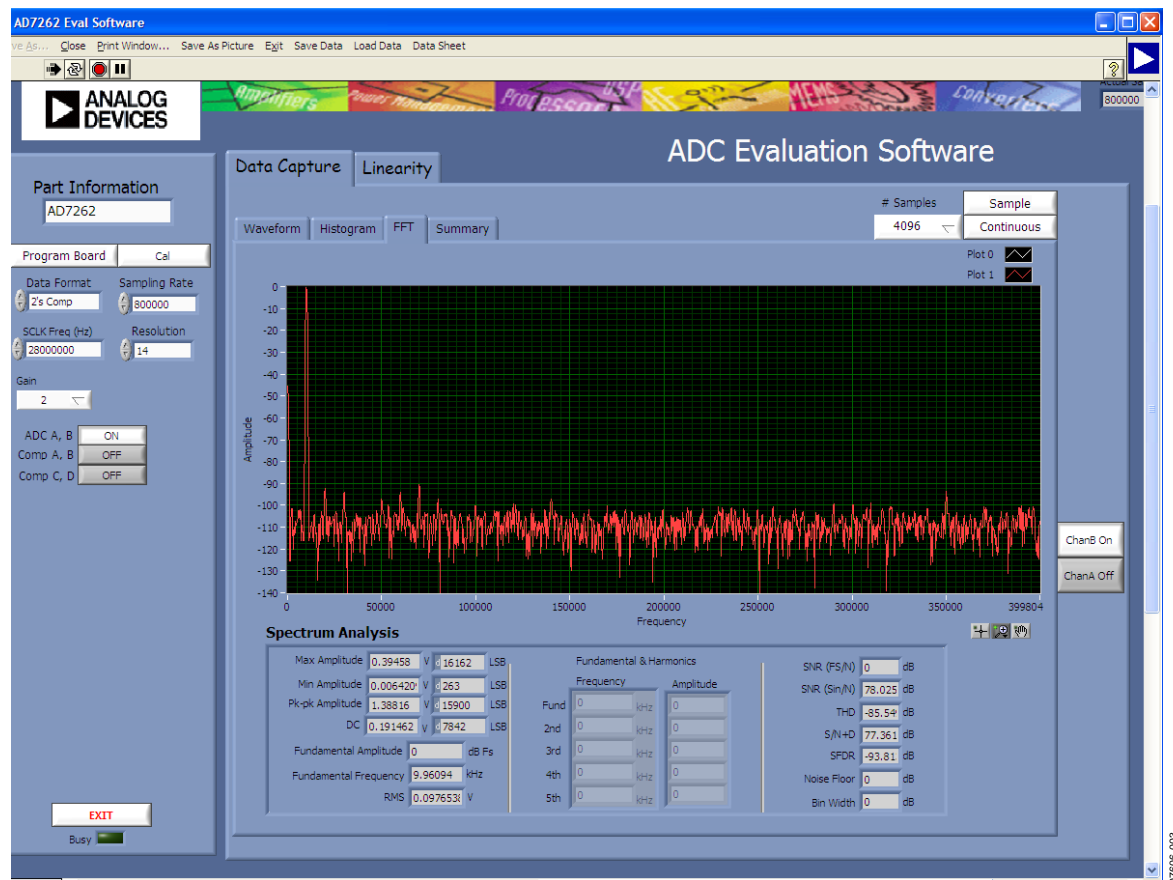

Figure 3. AD7262 Main Window
2. Click the **AD7274/AD7262** icon. Figure 3 displays the main window that is opened.
The software that controls the EVAL-CED1Z and, therefore, the AD7262/AD7264 evaluation board, has two main windows. Figure 3 shows the window that appears when the software is run. The main function of this window is to allow you to read a predetermined number of samples from the evaluation board and display them in both the time and frequency domain. The top portion of the screen contains the menu bar and the screen can be divided into three main sections: **Part Information**, **Data Capture**, and **Linearity**. The **Data Capture** tab consists of four subtabs: **Waveform**, **Histogram**, **FFT**, and **Summary**.
The **FFT** tab displays an fast Fourier transform (FFT) plot. The FFT is typically used for examining the performance of the ADC in the frequency domain. The **Spectrum Analysis** section contains information about the samples taken, such as ac specifications (see Figure 3).